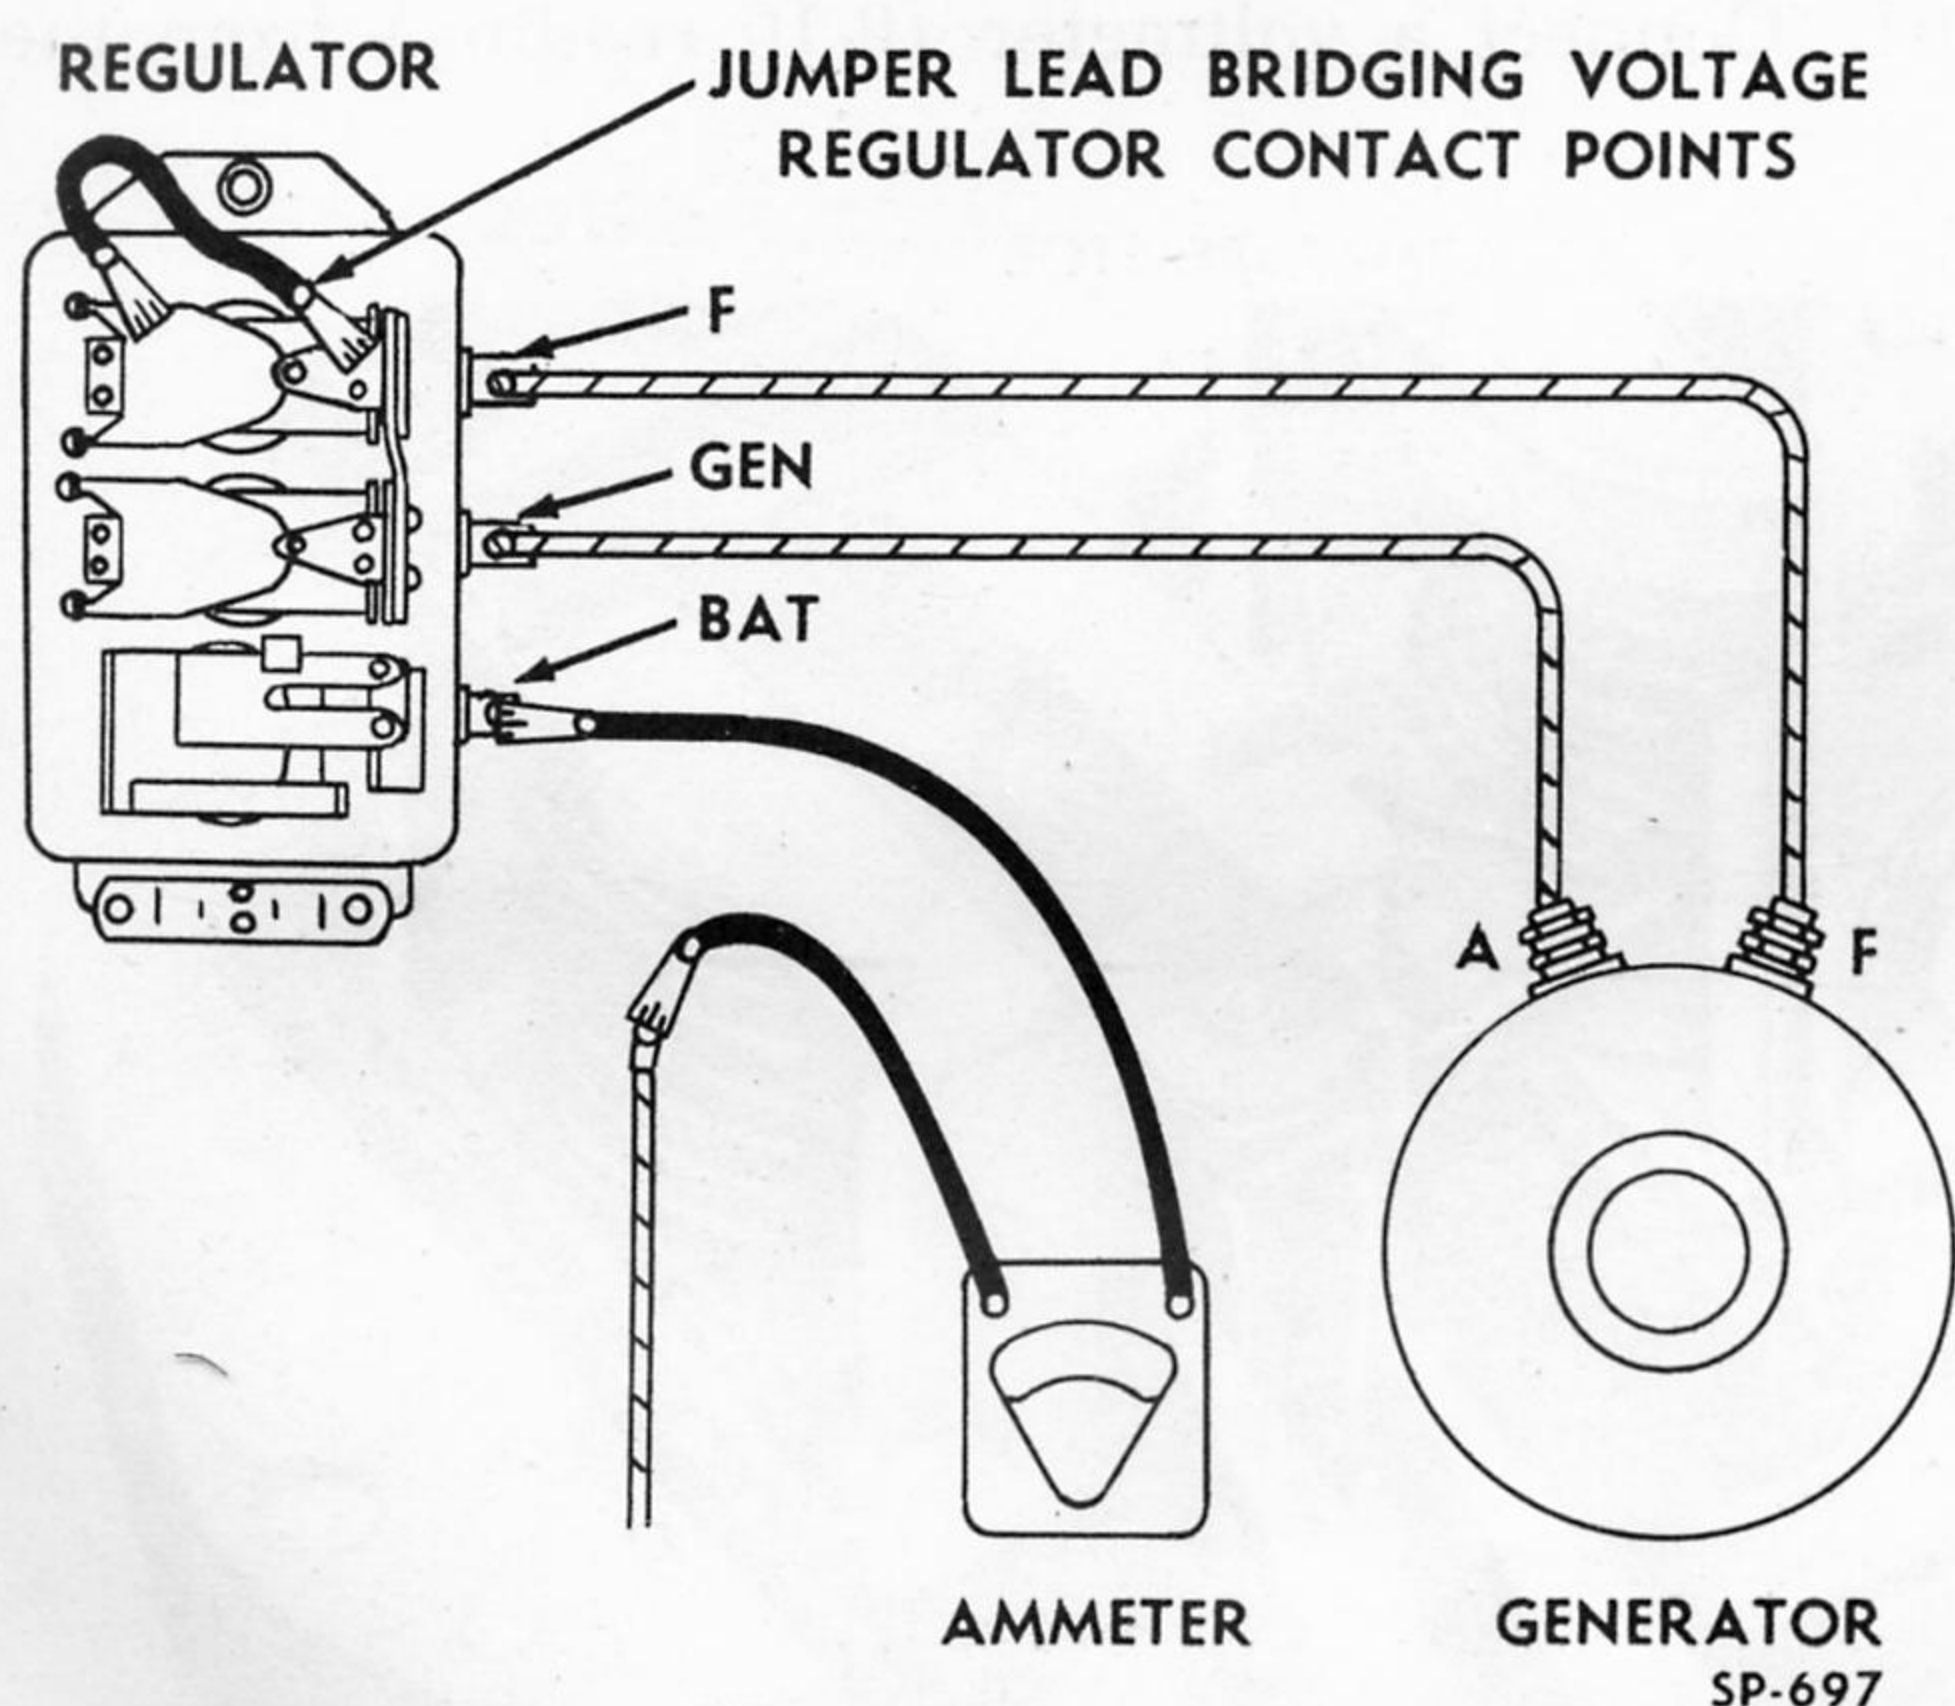

Fig. 409—Checking Kaiser Current Regulator Setting
(2) **Current Setting.** Connect the ammeter (0-50 or 60 reading) as illustrated in Fig. 409, from the regulator BAT terminal to the terminal of the cable detached from that regulator terminal. Bridge the voltage regulator, as shown, with a